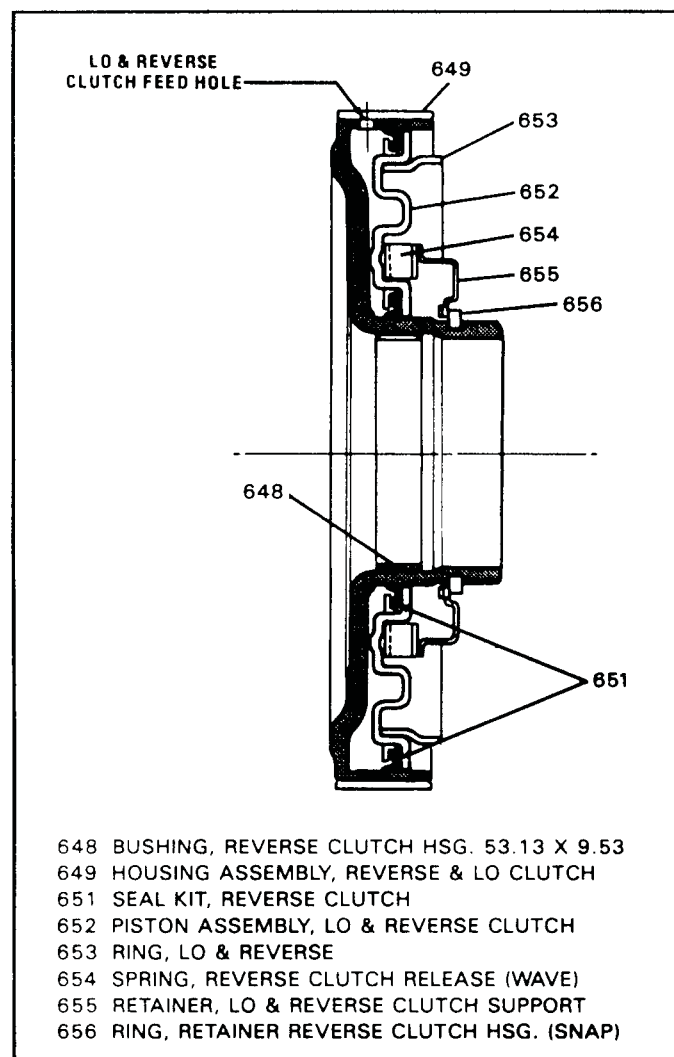

Figure 73
41. Be sure to align feed hole in housing to the feed hole in the case (See Figure 73).